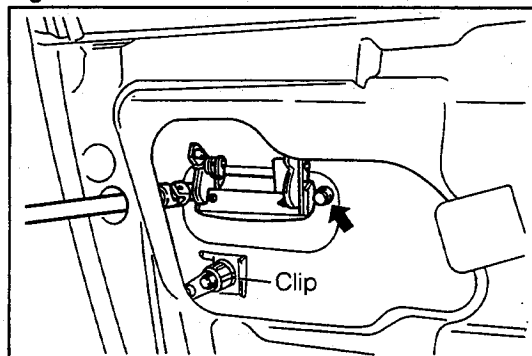

Fig. 9-128
- 1. Install the front door outside handle assembly with the two bolts. (See Fig. 9-128.)
- 2. Install the key cylinder into position with the clip. (See Fig. 9-128.)